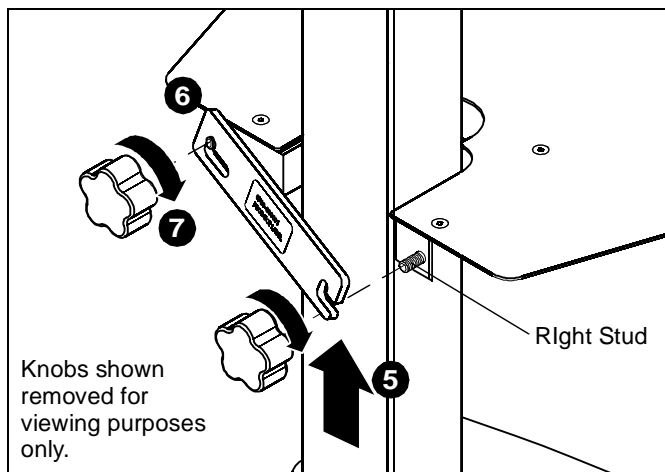

Figure 6
5. Place shelf around center post and level. (See Figure 6)
6. Raise shelf bracket and hook over shelf's right stud. (See Figure 6)
7. Turn both knobs clockwise to tighten the shelf in place. (See Figure 6)